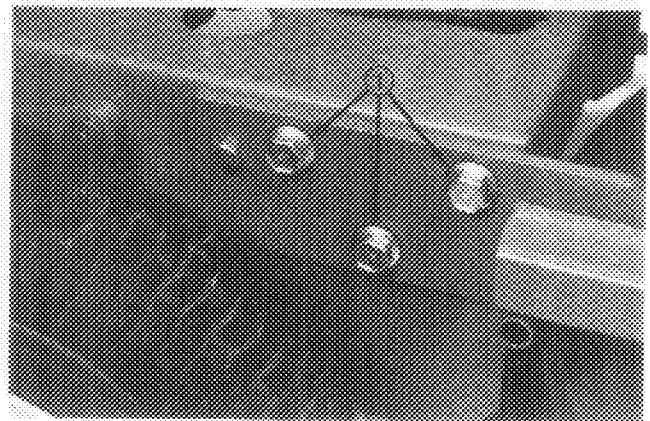

Figure 2
1. Align carrier frame mounting holes with mounting holes in traction frame. Secure each side with three flange screws and locknuts. (Fig. 2). Torque fasteners to 60-80 ft-lb. (81-109 N-m).